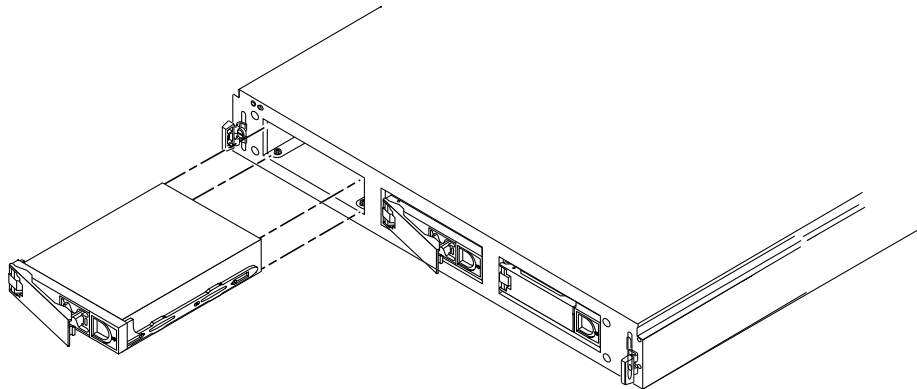

FIGURE 4-1 Adding a Disk Drive
5. **Open the locking handle on the disk drive by sliding the latch in the direction marked on it (FIGURE 4-1).**